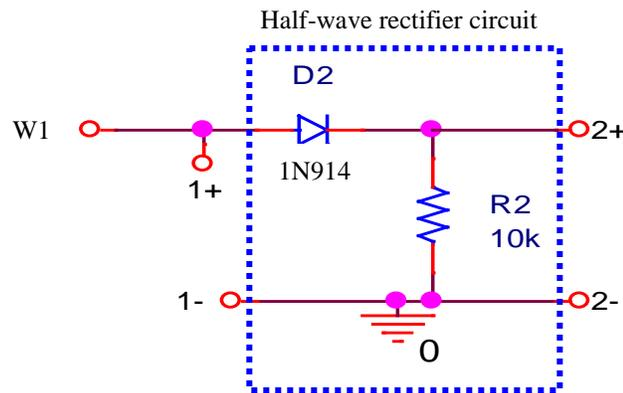

Figure B-1.
*Half-wave rectifier:* You will build a half-wave rectifier circuit. Build the circuit in Figure B-1. Be sure to **use a 10kΩ resistor for this circuit**. Channel 1+ senses the input signal to the half-wave rectifier circuit. 2+ is connected to the output of the rectifier circuit.
- **B.5** Return to the circuit in Figure B-1, redrawn below